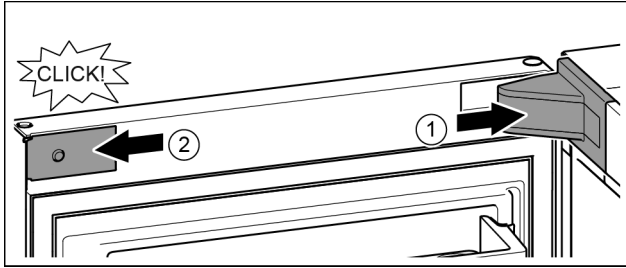

Fig. 25
- ▶ Position the bearing bracket and engage. If necessary push apart carefully. Fig. 25 (1)
- ▶ Position the panel on the side and click into place. Fig. 25 (2)